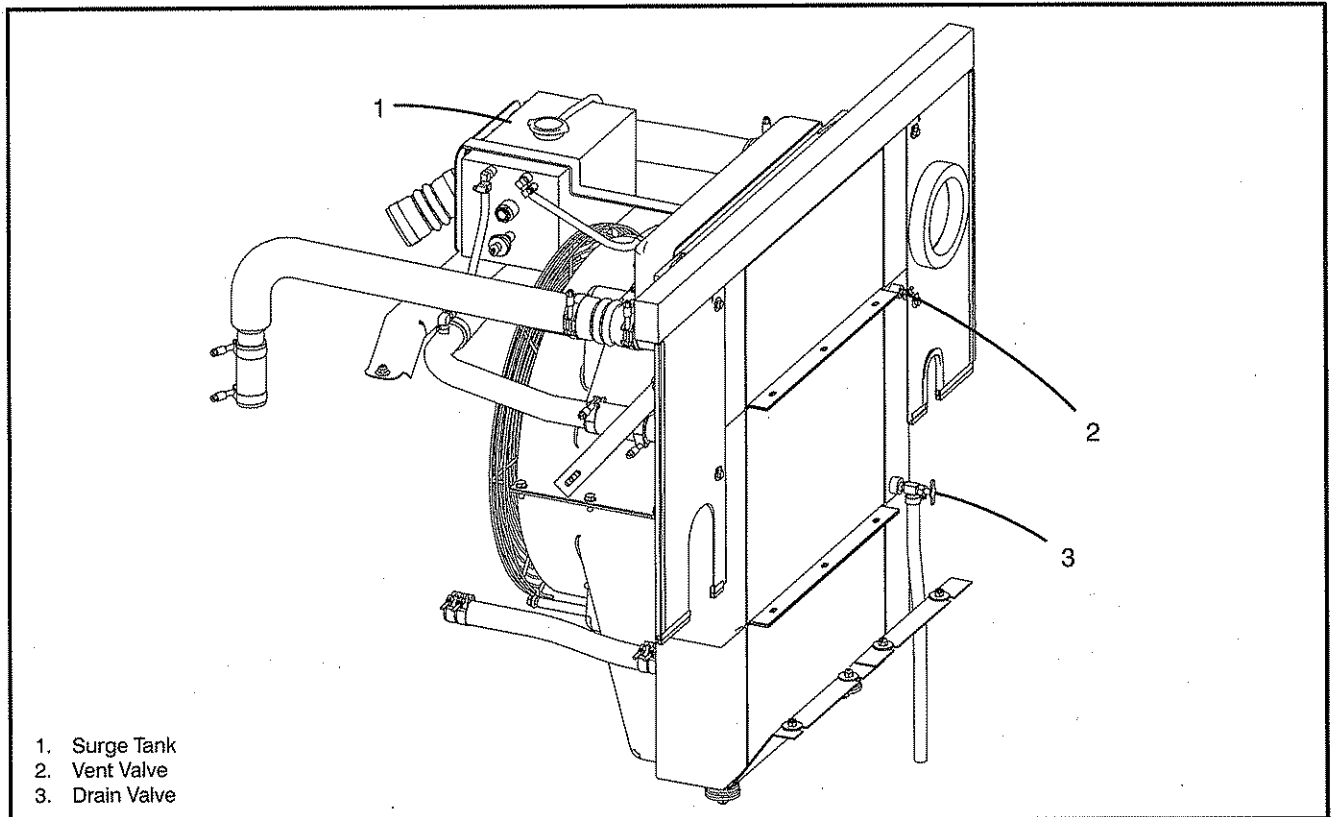

Figure 2-7
3. Drain the cooling system by opening the drain valve on the radiator. Allow the coolant to drain into a suitable container. Properly dispose of used antifreeze. Refer to Figure 2-7.